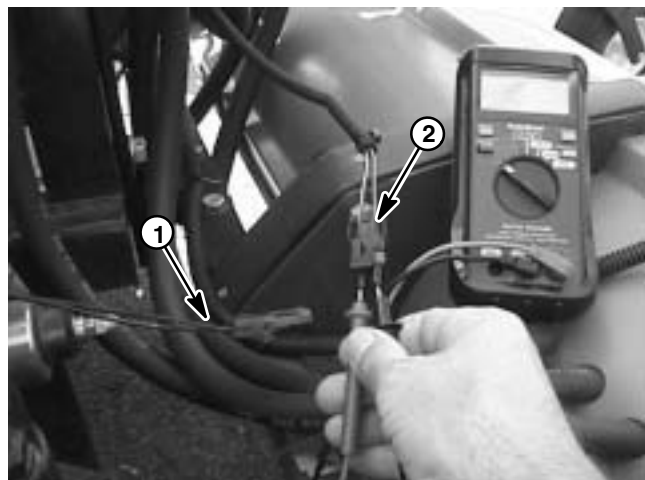

Figure 32
2. Connect one multimeter test lead to one of the harness connector leads and the other meter test lead to the second harness connector lead (Fig. 32). Set multimeter to DC Volts setting.